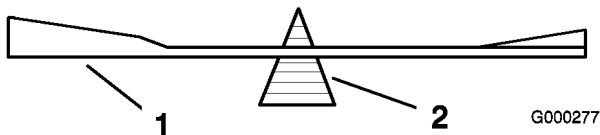
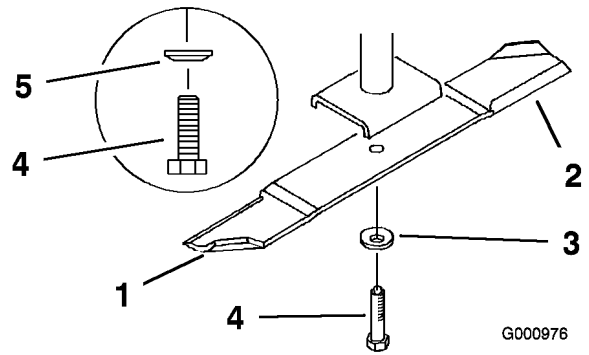

Figure 67
Figure 68
2. Remove the blade bolt, spring disk and blade from the spindle shaft (Figure 68).
2. Check the balance of the blade by putting it on a blade balancer (Figure 67). If the blade stays in a horizontal position, the blade is balanced and can be used. If the blade is not balanced, file some metal off the end of the sail area only (Figure 68). Repeat this procedure until the blade is balanced.
1. Install the blade onto the spindle shaft (Figure 68).
2. Install the spring disk and blade bolt. The spring disk cone must be installed toward the bolt head (Figure 68).